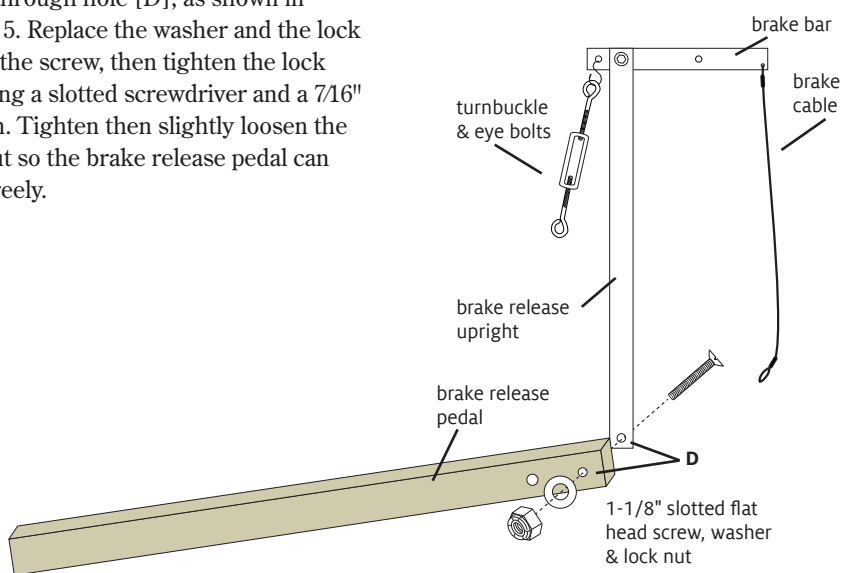

FIGURE 5: ASSEMBLE BRAKE RELEASE PEDAL AND DOUBLE WARP BEAM BRAKE ASSEMBLY
12. Lay the brake release pedal and the double warp beam brake assembly on the floor with all parts aligned as in Figure 5.
13. Remove the lock nut and washer from the brake release upright at [D], leaving the attached 1-1/8" slotted flat head screw in place (Figure 5).
14. Place the brake release pedal on top of the brake release upright, with the screw going through hole [D], as shown in Figure 5. Replace the washer and the lock nut on the screw, then tighten the lock nut using a slotted screwdriver and a 7/16" wrench. Tighten then slightly loosen the lock nut so the brake release pedal can pivot freely.